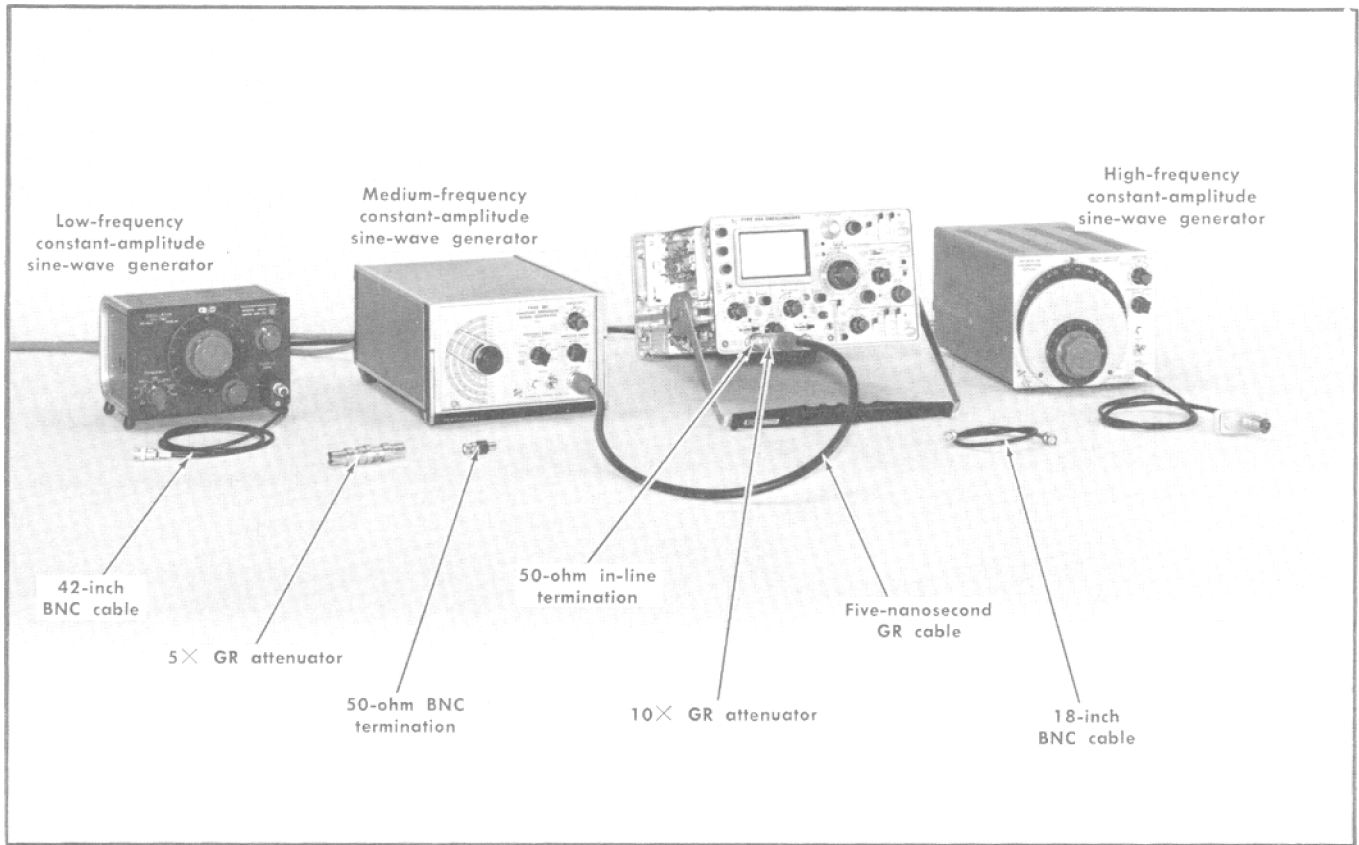

Fig. 6-28. Initial test equipment setup for steps 30 through 35.
- a. Test equipment setup is shown in Fig. 6-28.